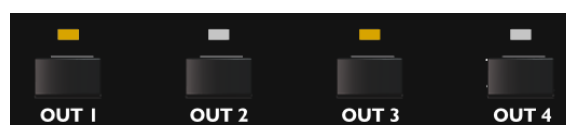

Figure 16: The four OUT LED
The **OUT_x** LED (see Figure 16) is:
- not lit (see Figure 16) when output channel OUT_x is unmuted.